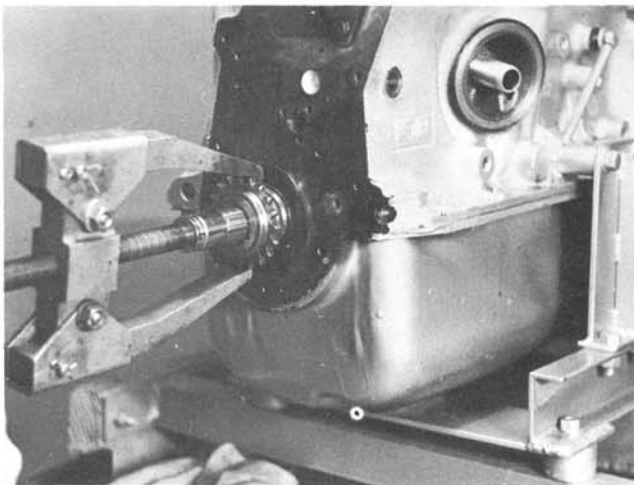

FIGURE 31. REMOVING CRANKSHAFT SPROCKET
1. Remove the crankshaft sprocket by means of a gear puller. Position an end fitting under the screw in order not to damage the end of the crankshaft. Remove the key (Figure 31).